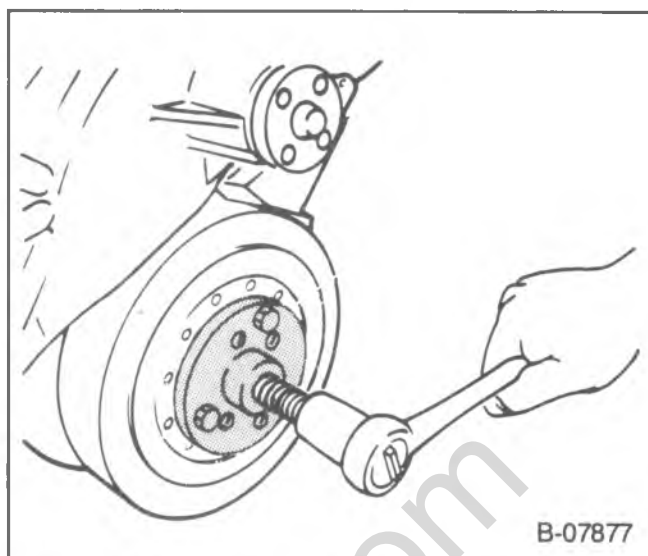

Figure 12—Removing the Torsional Damper
Remove or Disconnect (Figure 12)
6. Torsional damper. Use J-23523 (figure 12).